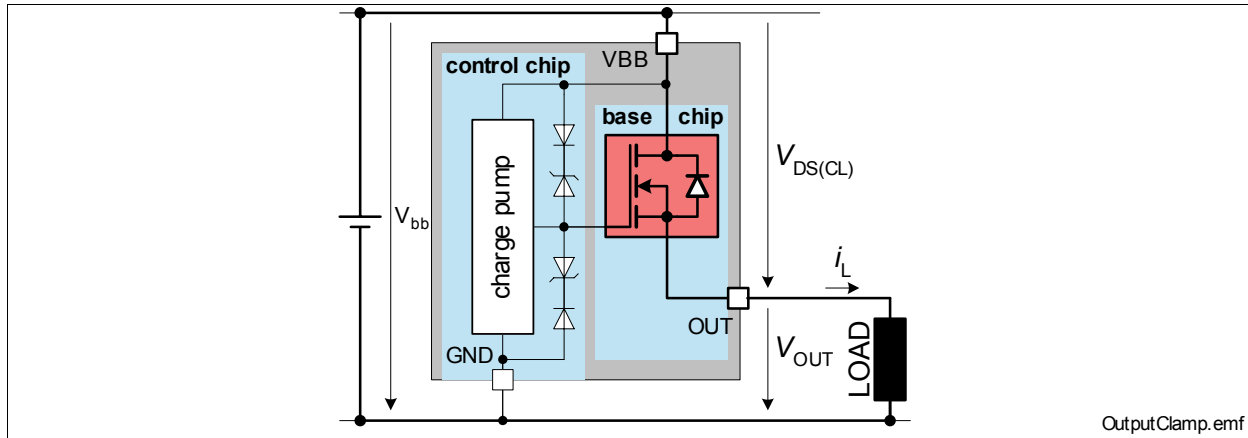
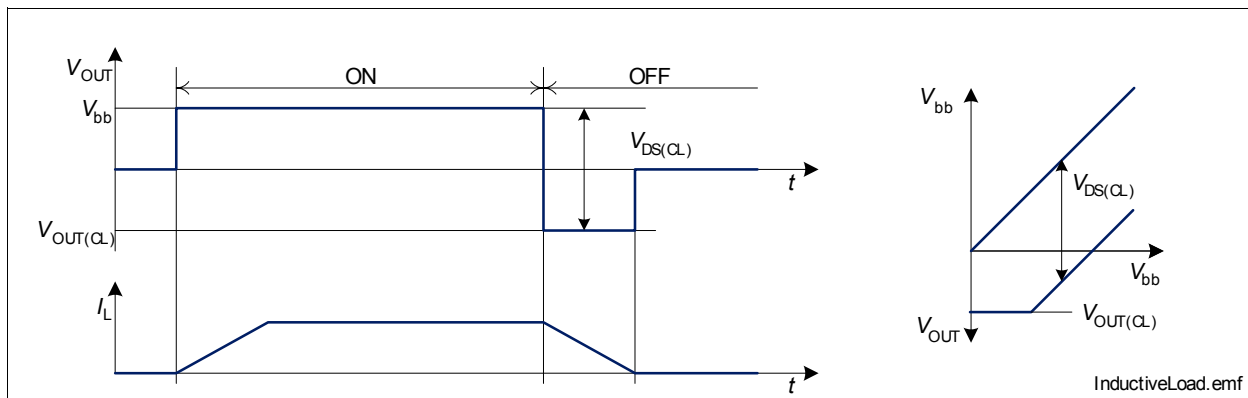

Figure 9 Output Clamp
Figure 10 Switching an Inductance
The power stage is designed for high side configuration (**Figure 9**).
To prevent destruction of the device, there is a voltage clamp mechanism implemented that keeps the voltage drop across the device at a certain level. At nominal battery voltage the output is clamped to $V_{OUT(CL)}$. At over voltages the output is clamped to $V_{DS(CL)}$. See **Figure 9** and **Figure 10** for details. The maximum allowed load inductance is limited.
- 5) See Figure 10.